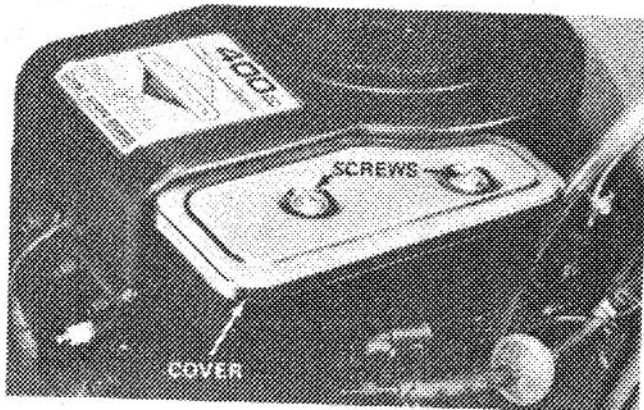

Figure 22
2. Remove air cleaner stud, screw and cover. Replace cover gasket if damaged (Fig. 22).